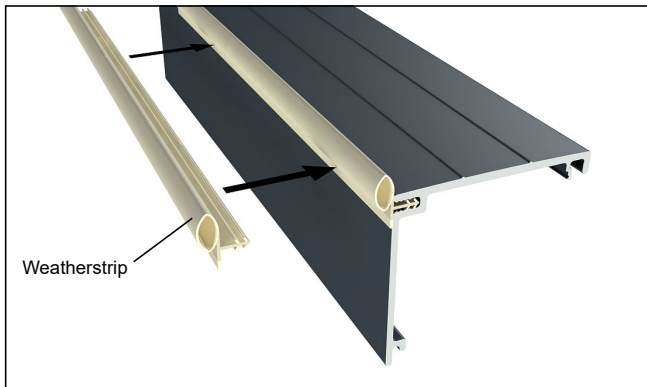

Figure 27
5. Install weatherstrip onto the exterior sill cover for pocket units. Weatherstrip is only for inside the pocket and should not run the full length of the sill cover. See figure 27.